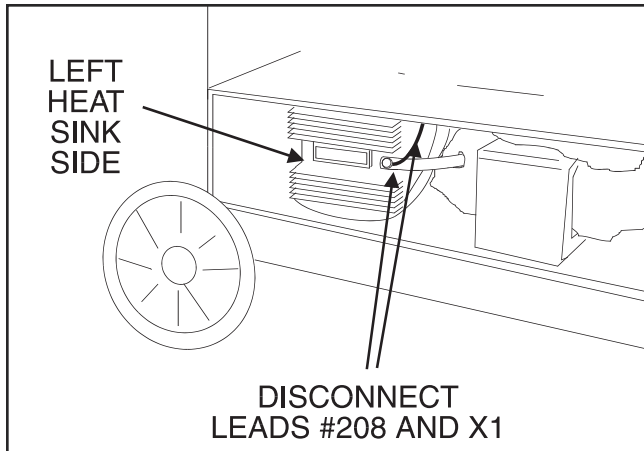

FIGURE F.15 - Heat Sink lead disconnection.
1. Disconnect lead #208 and Transformer Lead X1 from the heat sink on the left side of the machine (facing the front) using a 1/2" socket wrench. See Figure F.15.